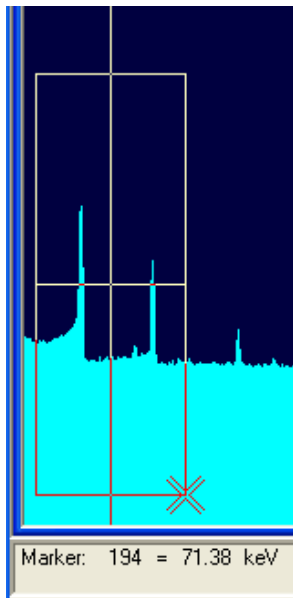

Figure 7.
The next section of the toolbar (Fig. 3) contains the buttons that control the spectrum vertical scale. These commands are also on the **Display** menu. In addition, the vertical and horizontal scales can be adjusted by zooming in with the mouse (see Fig. 7).
The horizontal scaling section (Fig. 4) follows next. It includes a field that shows the current window width in channels, and the **Zoom In**, **Zoom Out**, **Center**, and **Baseline Zero** buttons. These commands are also on the **Display** menu. In addition, horizontal scale can be adjusted by zooming in with the mouse (see Fig. 7).
- Drag the mouse diagonally across the area of interest. As you drag, the mouse will be drawing a reverse-color rectangle bisected by the marker line to form a “crosshair” (Fig. 7). This makes it easy to select the center channel in the area of interest — for instance, the center of an ROI you wish to mark or unmark, a portion of the spectrum to be summed, or a peak for which you want detailed information.